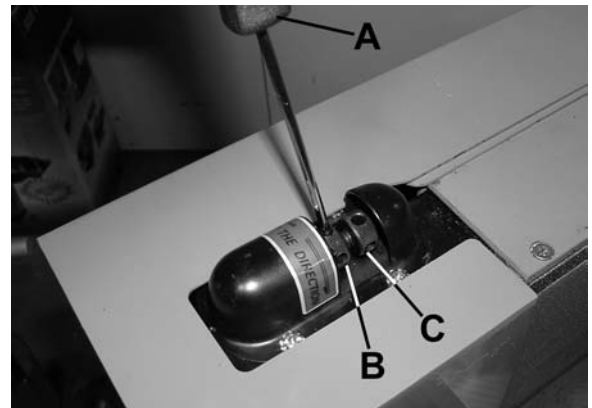

FIGURE 10
- 3) Insert the supplied belt tracking tool (A-Fig.10) into the micro adjusting nut (B-Fig.10) and turn away from you to loosen.
- 4) Turn the micro adjusting screw (C-Fig.10) in 1/4 turn increments until the belt is tracking evenly on the rollers when the belt is pushed by hand.